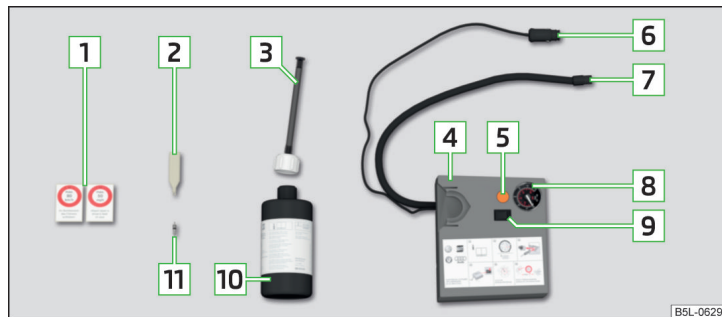

Fig. 186 Principle sketch: Repair kit components
Components of the kit » Fig. 186
- › Stick the corresponding sticker 1 » Fig. 186 on page 172 on the dashboard in the driver's field of view.
- › Shake the tyre inflator bottle 10 » Fig. 186 on page 172 vigorously several times.
- › Screw the air compressor tyre inflation hose 7 » Fig. 186 on page 172 firmly onto the tyre valve.